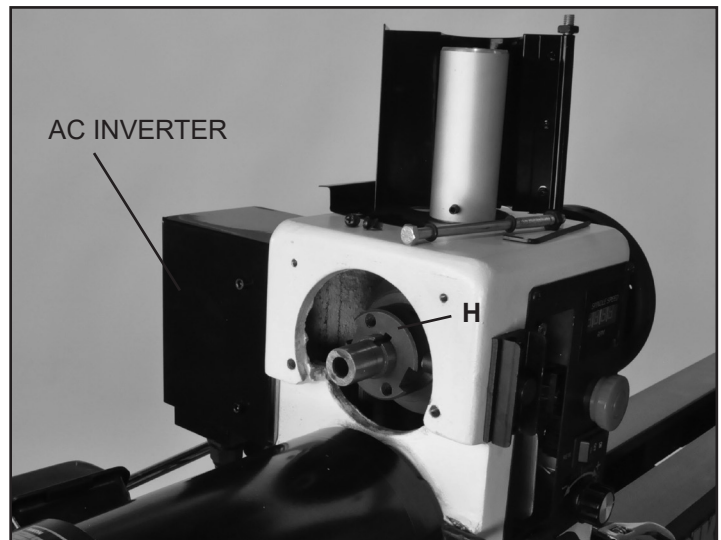

FIG. 14
7. Move the belt over the spindle pulleys, around the end of the spindle, and between the Spindle Lock Pin (#B49, G) and spindle to remove the belt from the machine. If more room is needed, the Spindle Pulley (#B26, FIG. 14 & 15, H) can be shifted by loosening its set screws (#B25). Return the pulley back to position and secure the set screws once the new belt is installed.